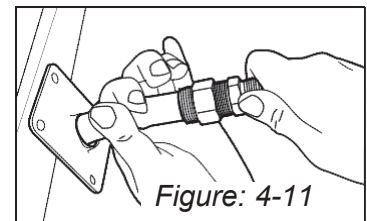
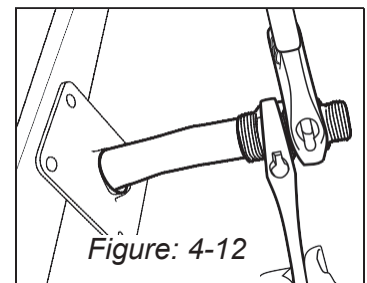
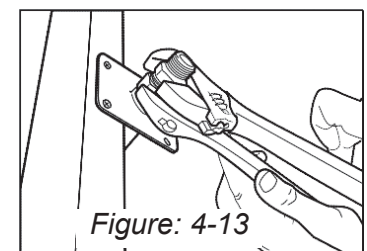

Figure: 4-11
Figure: 4-12
Figure: 4-13
- B. PIPE TO FITTING CONNECTION:** Attach fitting to pipe following all instructions in step 5. Figure: 4-11 Once the fitting has been tightened to the pipe, slightly loosen this connection until the fitting can be rotated on the pipe. Figure: 4-12 Screw the fitting on to the flange and tighten. Holding the flange fitting nut, re-tighten the body. Figure: 4-13